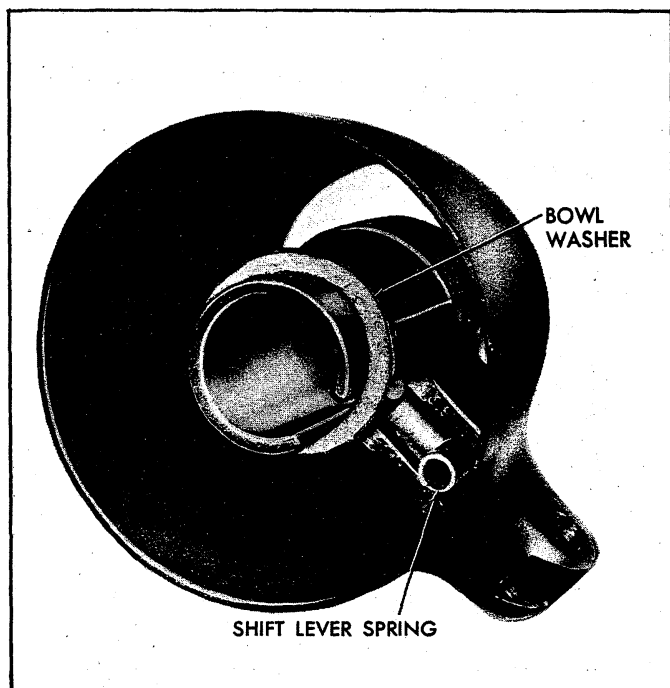

Fig. 30—Upper Shift Lever Spring and Bowl Washer
11. If necessary, pry upper shift lever spring (fig. 30) from bowl and discard spring. Remove bowl washer (fig. 30).
new upper shift lever spring into bowl pocket. Be sure spring is seated in bowl pocket. Install bowl washer (fig. 30).
11. If necessary, pry upper shift lever spring (fig. 30) from bowl and discard spring.